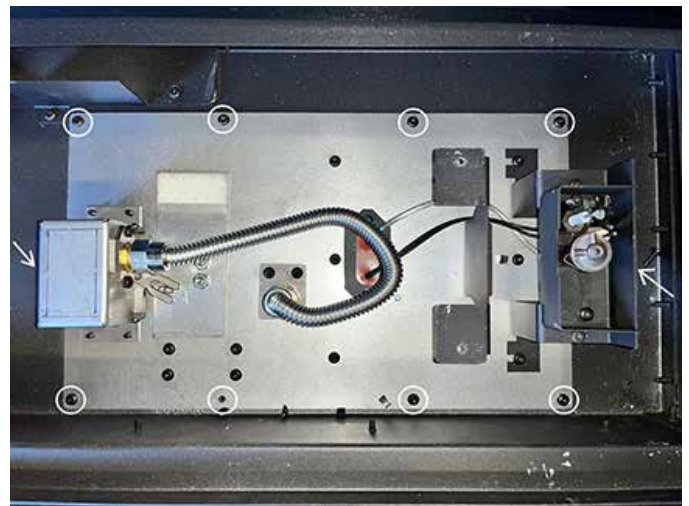

Figure 74: Right side access cover/Valve assembly
11. Remove the ten screws securing the right side access panel to the firebox bottom. Figure 74.